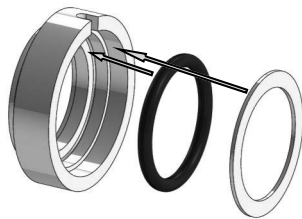
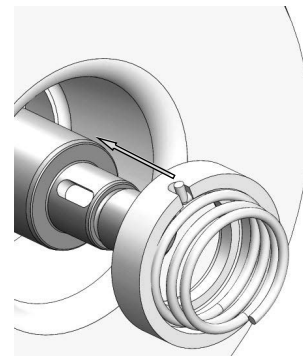

Figure 3
Figure 4
2. Lubricate the o-ring, and insert it into the rotating seal followed by the washer [Figure 3]. Slide the completed orating seal assembly onto the stubshaft assembly [Figure 4].